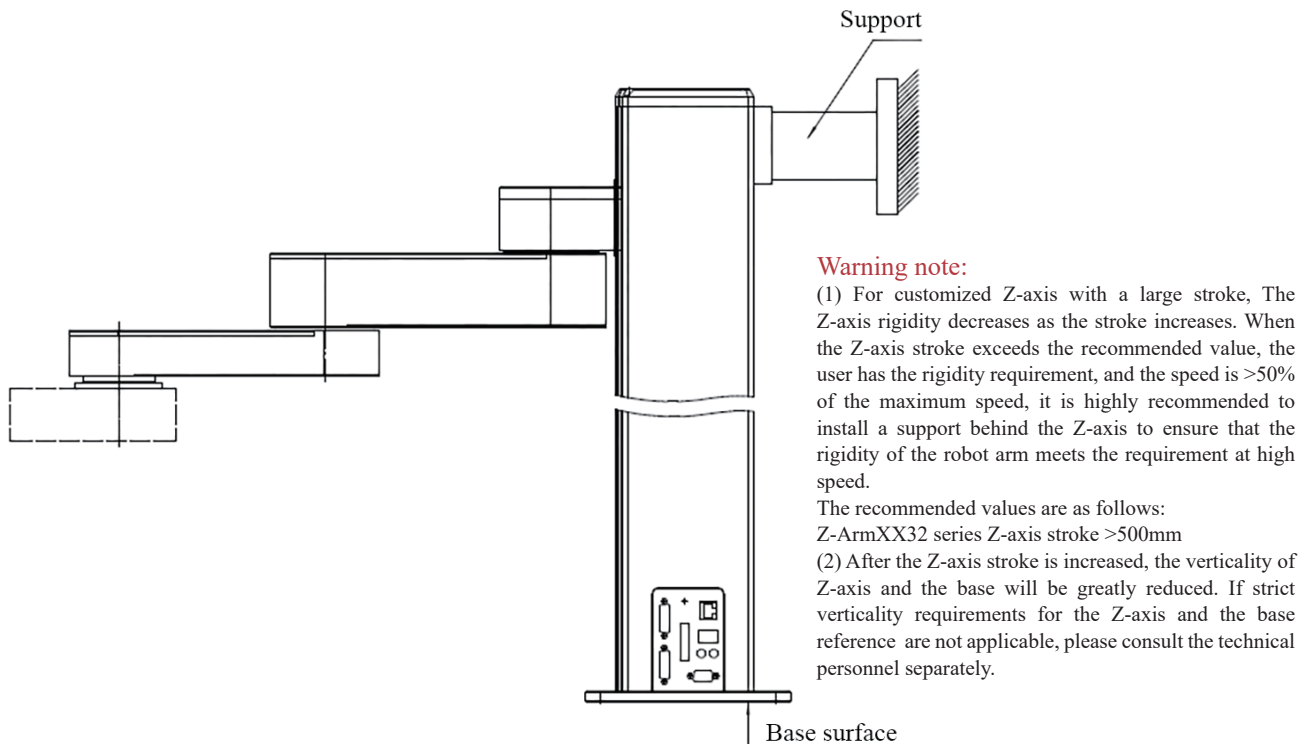

Figure 10
4. Note for installation of customized Z axis, see Figure 10 for details